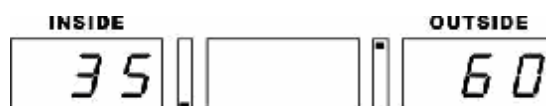

Fig 14
- I After about 7 seconds, the control panel displays the imbalance value of the wheel, as shown in Fig 14.